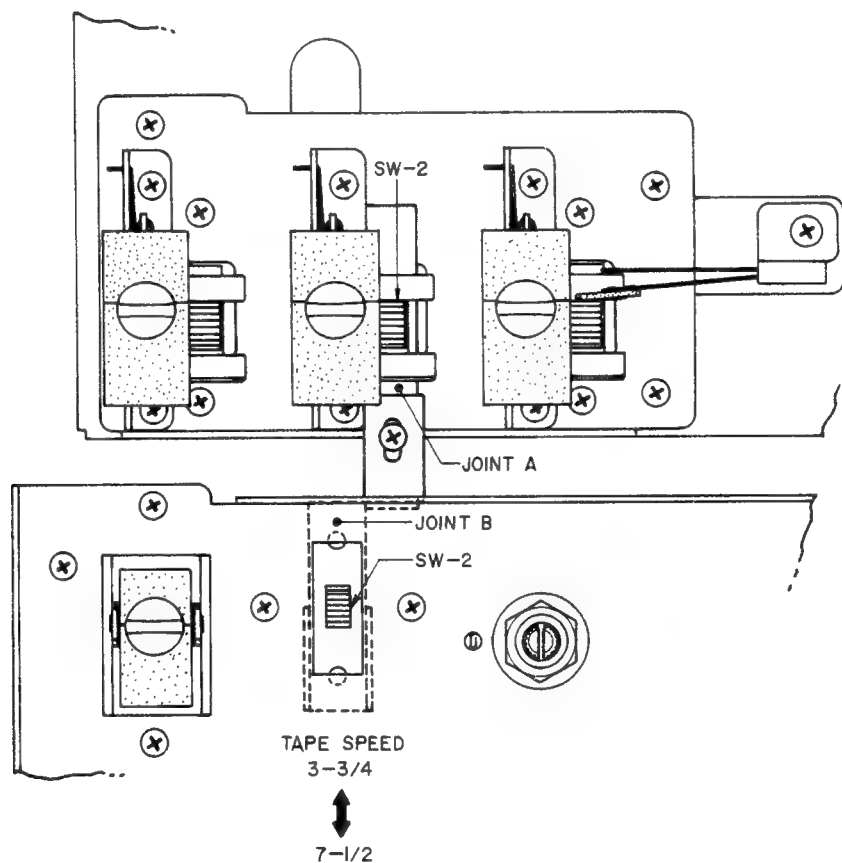

Fig. 9
9. INSTALLATION POSITION ADJUSTMENT OF JOINT B (Refer to Fig. 9)